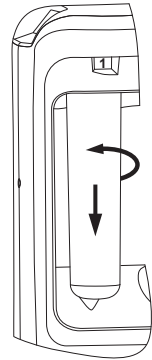

Fig. 9b
- To remove a cartridge, turn the cartridge counter clockwise, as shown in Fig. 9b, and remove it.
- Rotate the used cartridge counter clockwise and remove it, as shown in Fig. 9b.